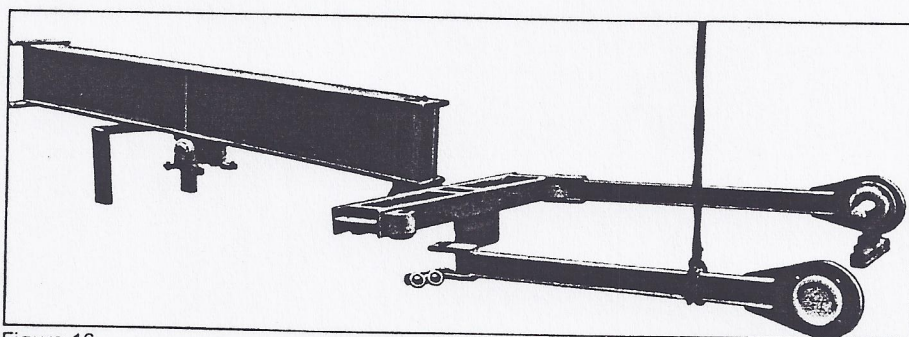

Figure 16
- n. Remove caps from the upper pitman bearings and push pitman forkhead over these bearings. Install shaft through forkhead and upper bearings and tighten clamping bolts. To eliminate play between forkhead and bearing housing, laminated shims are to be used. These can be peeled to size with a pocketknife. See illustration in Figure 16.